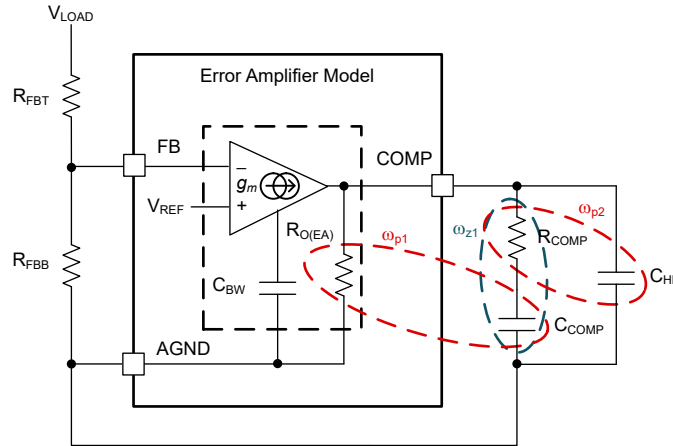

Figure 10-3. Error Amplifier and Compensation Network
Figure 10-3 shows a type-II compensator using a transconductance error amplifier (EA). The dominant pole of the EA open-loop gain is set by the EA output resistance, $R_{O(EA)}$, and effective bandwidth-limiting capacitance, C_{BW} , as shown by Equation 28.